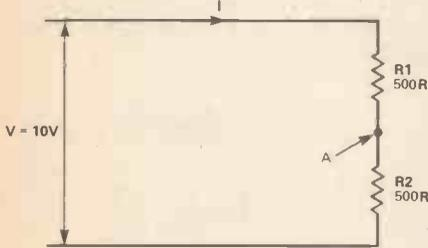

Figure 12. An equivalent circuit of that in Figure 11, used to calculate the voltage at point A.
- 4) The circuit has now been reduced to that in Figure 12. The voltage at point A must be 5V ie, it is at the mid-point of the potential divider formed by the two resistors